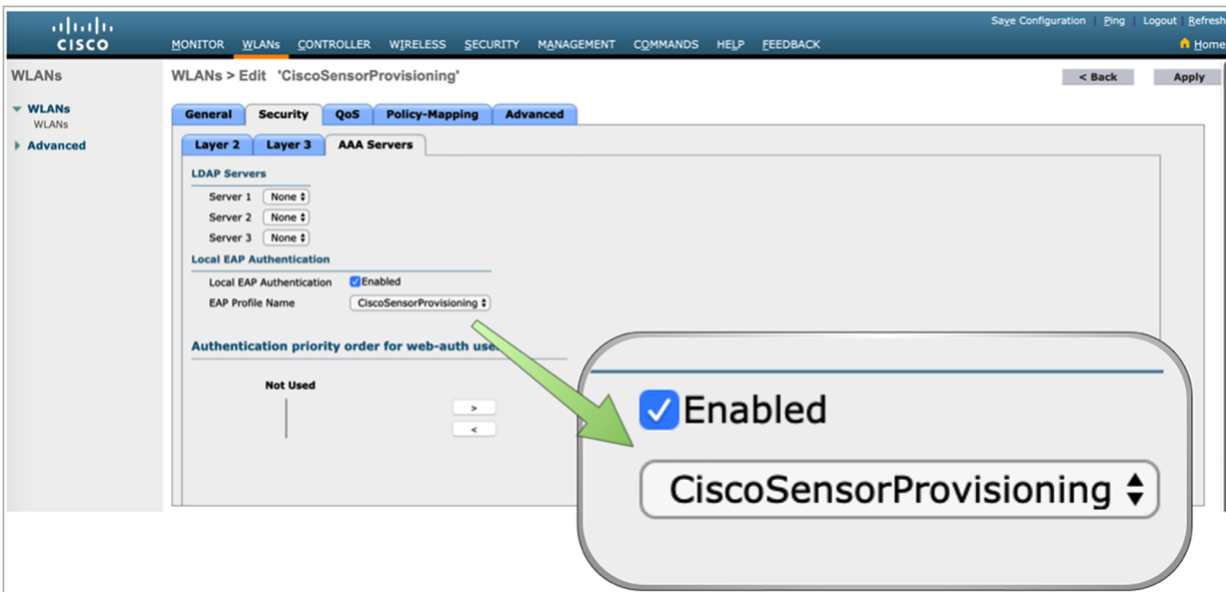

Figure 14.
- b. Ensure that the SSID and local authentication profiles have now been created (**Figure 14.**).